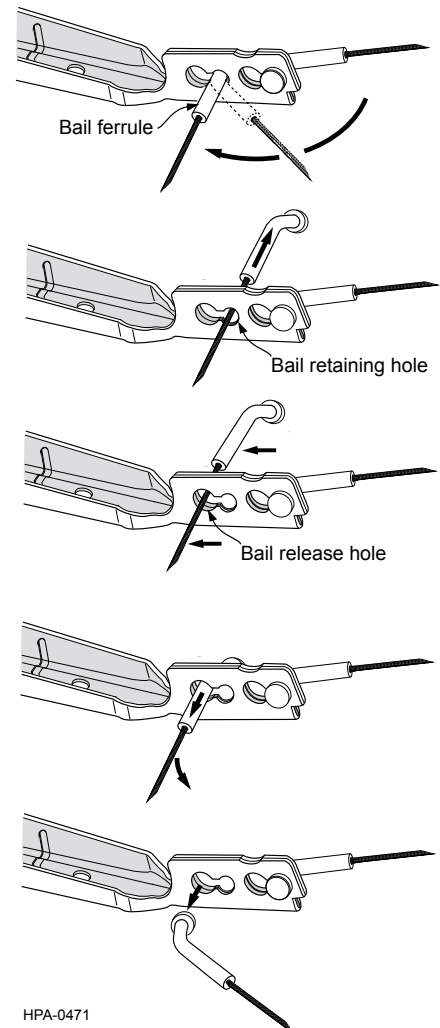

Figure 3
Step 3: If the pole hardware you are using has a closed eye, the bail must first be opened (Figure 3):